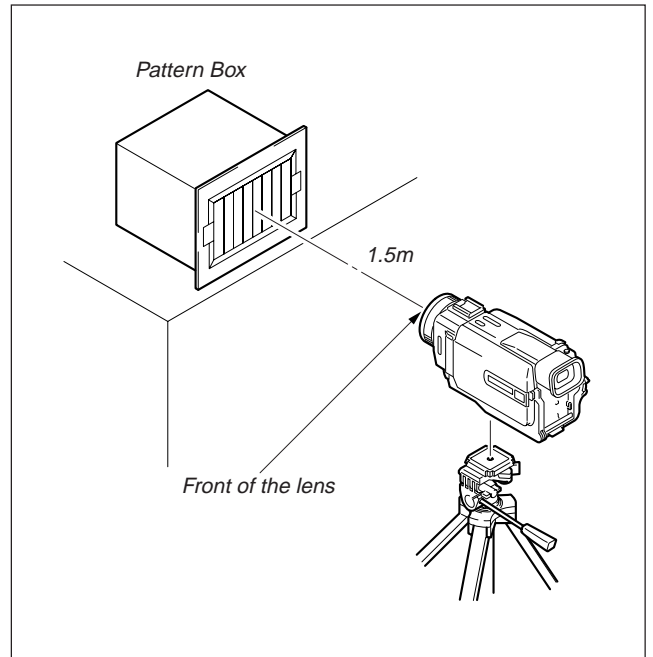

Fig. 5-1-2.
1) Connect the equipment for adjustments according to Fig. 5-1-2.
**Note 3:** As removing the cabinet (R) (removing the VC-240/241 board CN003) means removing the lithium 3V power supply (BT3201), data such as date, time, user-set menus will be lost. After completing adjustments, reset these data. If the cabinet (R) has been removed, the self-diagnosis data, data on history of use (total drum rotation time etc. ) will be lost. Before removing, note down the self-diagnosis data and the data on history use (data of page: 2, address: A2 to AA). (Refer to “SELF-DIAGNOSIS FUNCTION” for the self-diagnosis data, and to “5-4.Service Mode” for the data on the history use.)